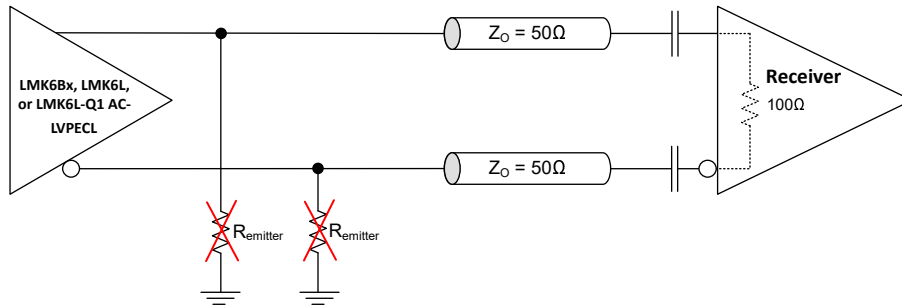

Figure 8-4. Replacing a LVPECL oscillator with the LMK6L-Q1
3. Depopulate any emitter resistors as shown in Figure 8-4.